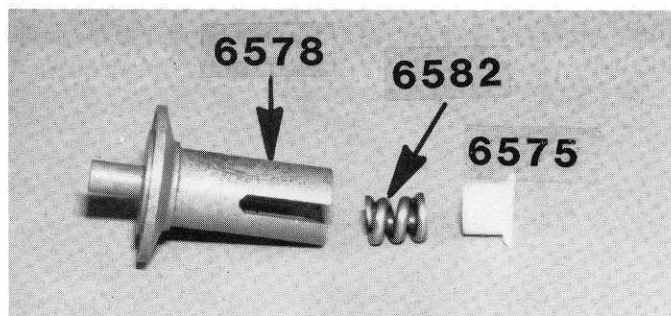

Fig.40
□ **Figs. 40 & 41** Using the #6578 left diff outdrive hub again. Remove the #6589 bearing and set it aside for a moment. **Make sure the hub is clean and free from all burrs.** Push the #6582 diff thrust spring into the hub and then align the plastic T-nut with the slots in the hub and push the T-nut all the way in against the spring.